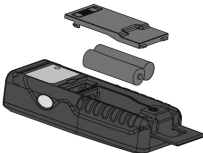

Fig. 14: Replacement of the internal battery
1. Slide the battery compartment cover to the right and remove it (see Fig. 14)